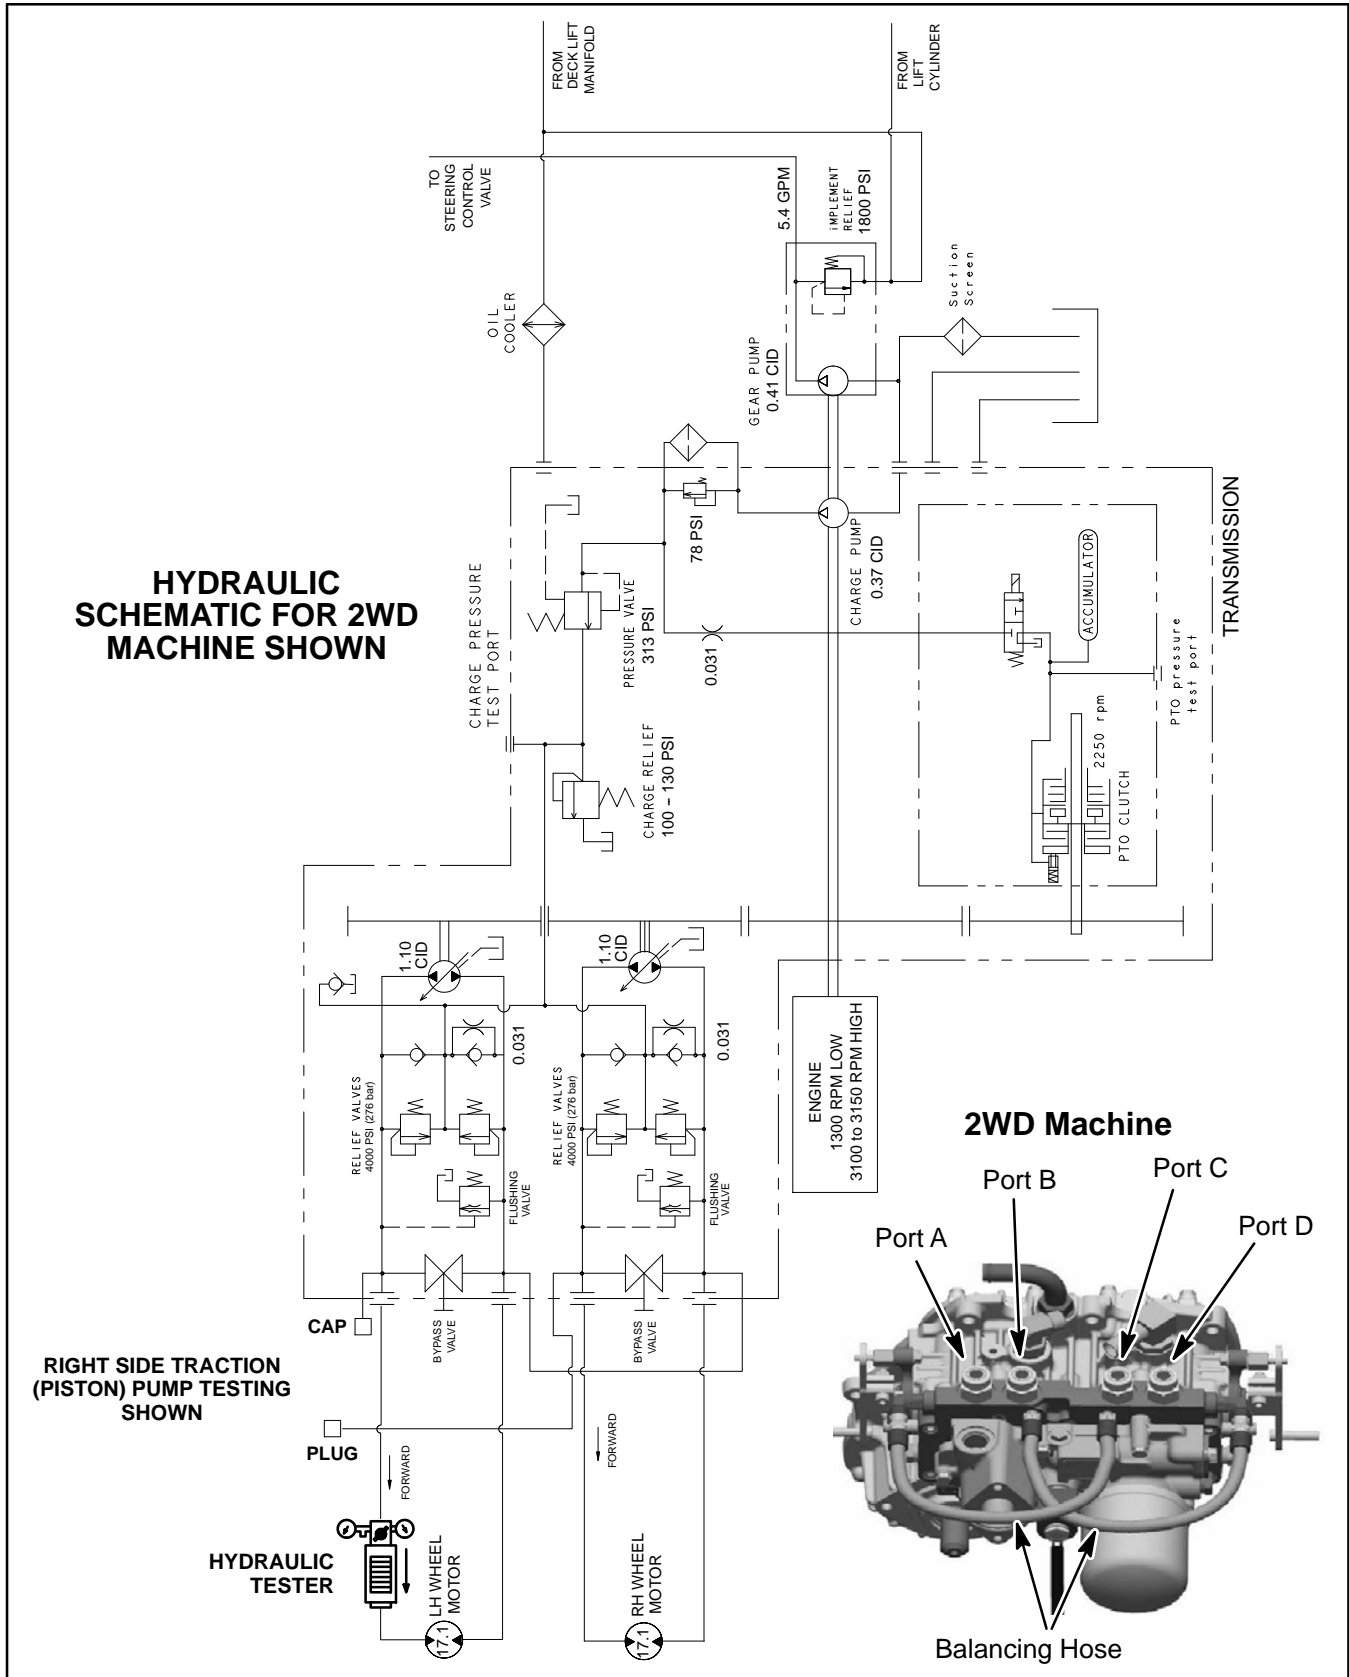

Figure 30
5. Thoroughly clean area surrounding traction circuit hoses on top of transmission (Fig. 30 or 31). Determine which piston pump is to be tested.
6. Disconnect hydraulic hose from transmission pump outlet fitting for piston pump to be tested (Fig. 30 or 31):
8. Disconnect balancing hose from transmission fitting closest to transmission pump outlet fitting for pump to be tested (Fig. 30 or 31). Install steel cap on fitting and steel plug in balancing hose.